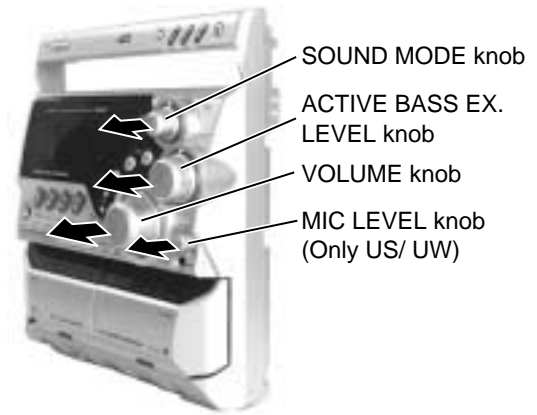

Fig.23
**■Removing the front board (See Fig.23 and 24)**